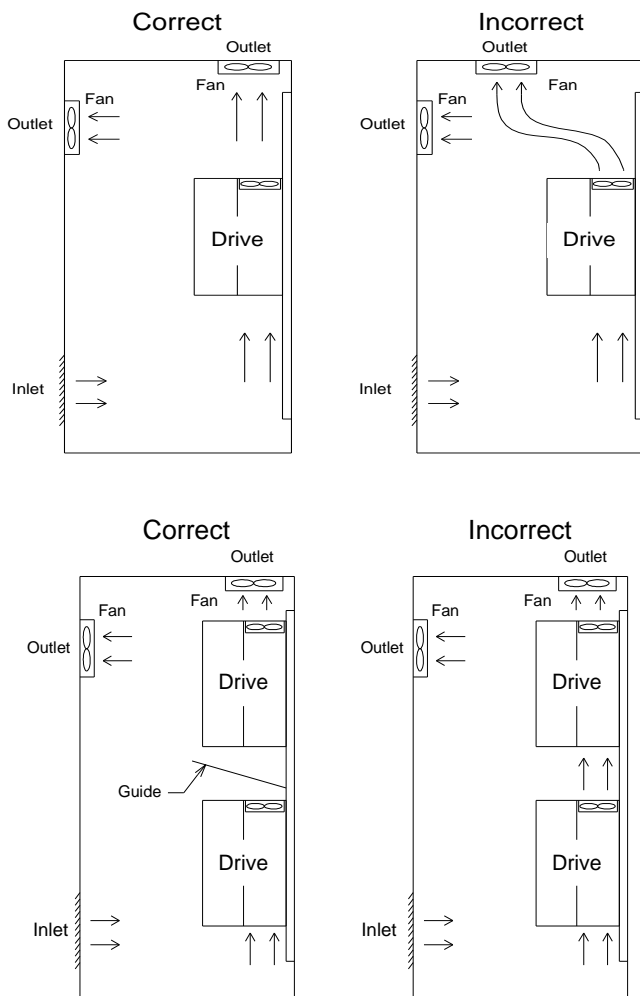

Figure 1: Drive mounting inside the cabinet/control panel
**2-2-3 Arrangement:** The fluent air ventilation inside the control panel/cabinet must be considered when a drive is installed inside. Please refer to as below figure 1: